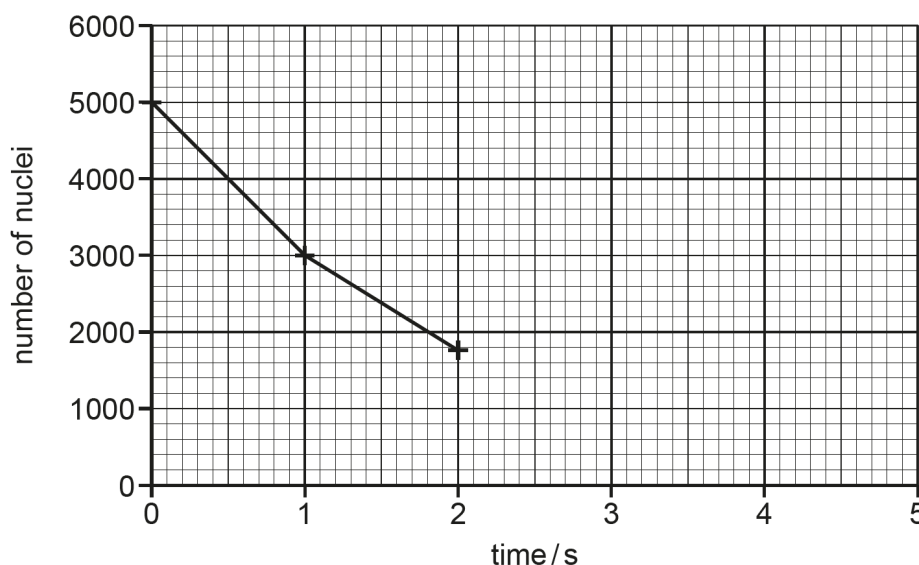

Fig. 3.1
- (ii) The decay graph has been started in **Fig. 3.1**. Complete the final three points on the graph using data from **Table 3.1**. [2]